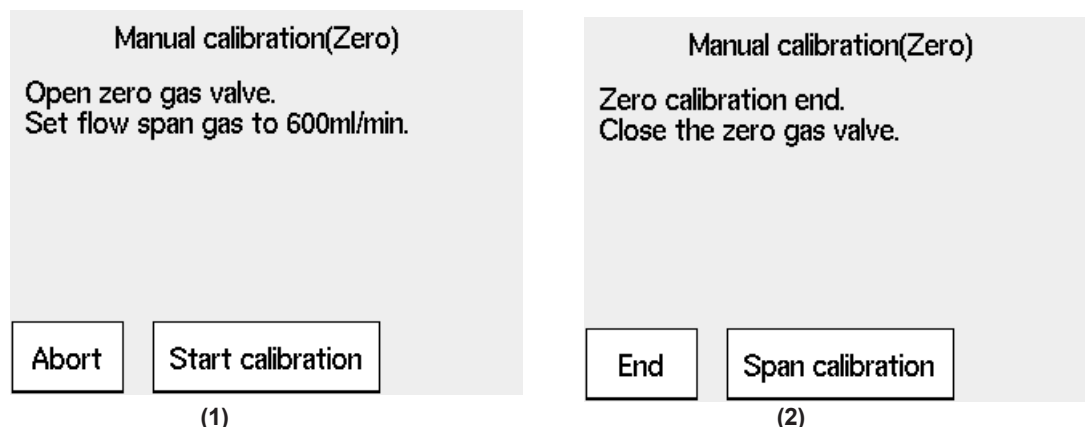

Figure 10.32 (1) Zero Gas Manual calibration
- (1) When the display shown in Figure 10.32 (1) appears during calibration, open the zero gas flow setting valve of the flow setting unit and adjust the flow rate to 600 ± 60 ml/min. To rotate the valve shaft, if the valve has a lock nut loosen the lock nut and slowly turn it counterclockwise. To check the flow rate, monitor the calibration gas flowmeter. If the sample gas pressure is extremely high, adjust the sample gas pressure to obtain pressures (listed in Table 10.11) $\pm 10\%$.
- (2) Adjust the flow rate and select "Valve opened" from the Manual calibration display. Check the Trend graph display to see that the measured value is stabilized. Then press the [Enter] key. The Manual calibration display shown in Figure 10.32 (2) appears.